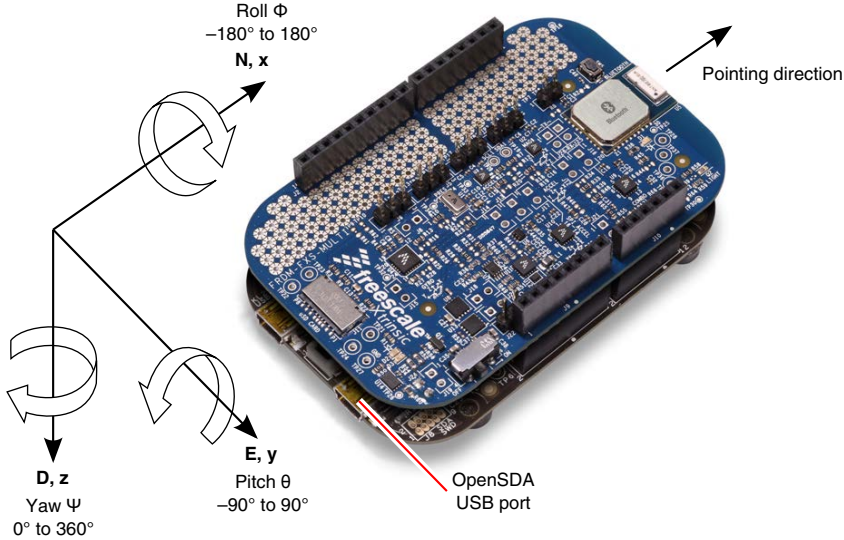
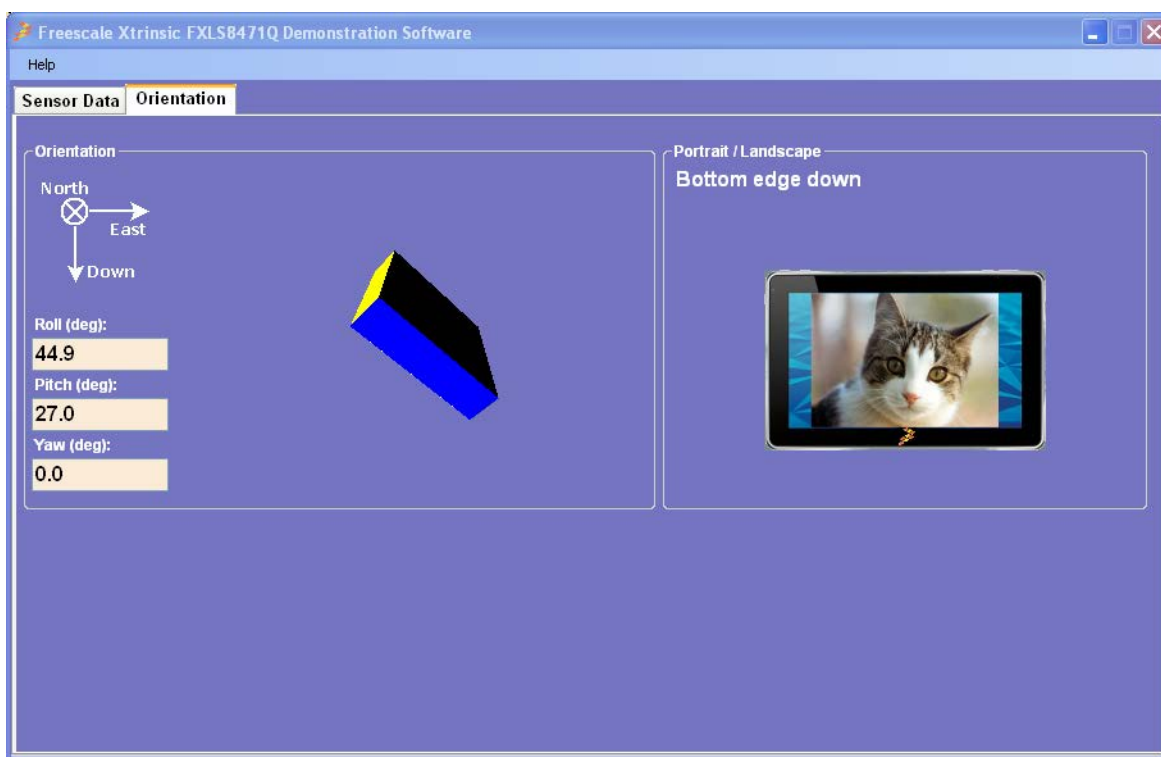

Figure 3. Assembled Kit and NED Coordinate System
Figure 11. Orientation screen
2. When the board assembly is complete, the pointing direction is indicated by the pointing direction arrow in Figure 3.
- a. Plug one end of the USB cable into the USB port on the assembled boards (see Figure 3) and the other end into a USB port on the PC.
The **Orientation** screen displays the tilt orientation using Euler angles (deg) in a NED (x = North, y = East, z = Down) coordinate system. The orientation is defined relative to a starting position with the PCB assembly oriented flat and pointed northwards as shown in Figure 3. Since accelerometers are insensitive to rotations about the gravity vector, the yaw angle is arbitrarily fixed to 0 degrees (due North).
- A 2D image of a mobile tablet shows how orientation information can be used for adjusting the display to keep images upright (in portrait/landscape frame). The **Bottom edge down** orientation shown in Figure 11 corresponds to the **Pointing direction** arrow, shown in Figure 3, oriented so it points upward. For more details, see AN3461, Tilt Sensing Using a Three-Axis Accelerometer, Section 6, Selecting Portrait and Landscape Modes.